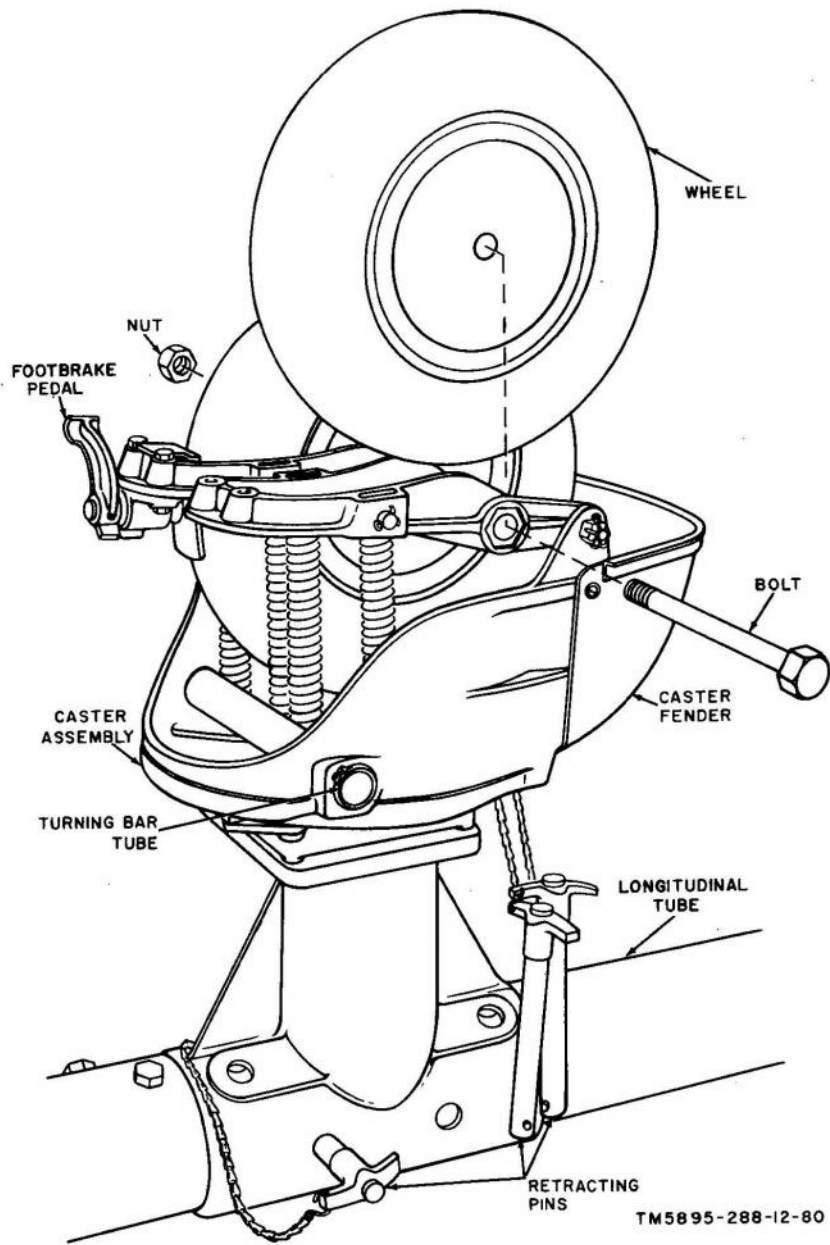

Figure 68. Dolly assembly wheel housing, exploded view.
- (10) Turn the winch handle slowly until the 10-kw generator is on the ramp; then place the control lock in the extreme left position so that the winch cable can be let out.
- (11) Slowly turn the winch handle counterclockwise to slide the 10-kw generator down the ramp. Disconnect the winch cable hook from the 10-kw generator.
- (12) Use a vehicle to tow the 10-kw generator off the ramp.
- (13) Disconnect block No. 1 from the outboard curbside unloading ring and block No. 2 from the outboard roadside unloading ring.
- (14) Use the clevis to attach block No. 1 to the outboard roadside unloading ring.
- (15) Align the replacement 10-kw generator with the trailer ramps.
- (16) Secure the winch cable hook to the towing eye of the 10-kw generator.
- (17) Place the control lock, which is on the winch, in the extreme right position, and turn the winch handle clockwise until the 10-kw generator is in place on the four-wheel trailer. Make sure that the holes on the 10-kw generator skids are aligned with the mounting holes on the trailer. Disconnect the winch cable hook.
- (18) Secure the 10-kw generator to the trailer with four bolts, nuts, and washers.
- (19) Store block No. 1, block No. 2, and the winch cable hook, and replace the trailer ramps in their storage position under the four-wheel trailer.
k. Replacing Dolly Assembly Wheels (fig. 68). To replace a wheel on the dolly assembly, proceed as follows:
- (1) Apply the footbrakes to all the caster assemblies except the one on which the wheel is to be replaced.